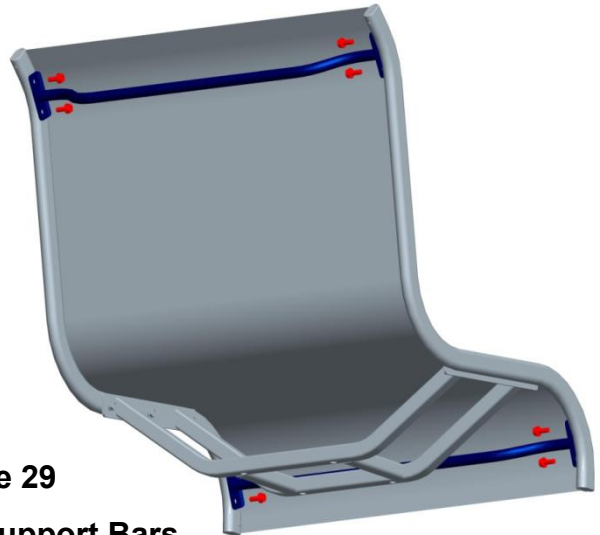

Figure 29
Locate two Seat Support Bars (#18). Install the Seat Support Bars (#18) onto the Seat & Backrest Frame (#16) using eight (8) M6x16 Bolts and eight (8) Steel Washers as shown in Figure 29.